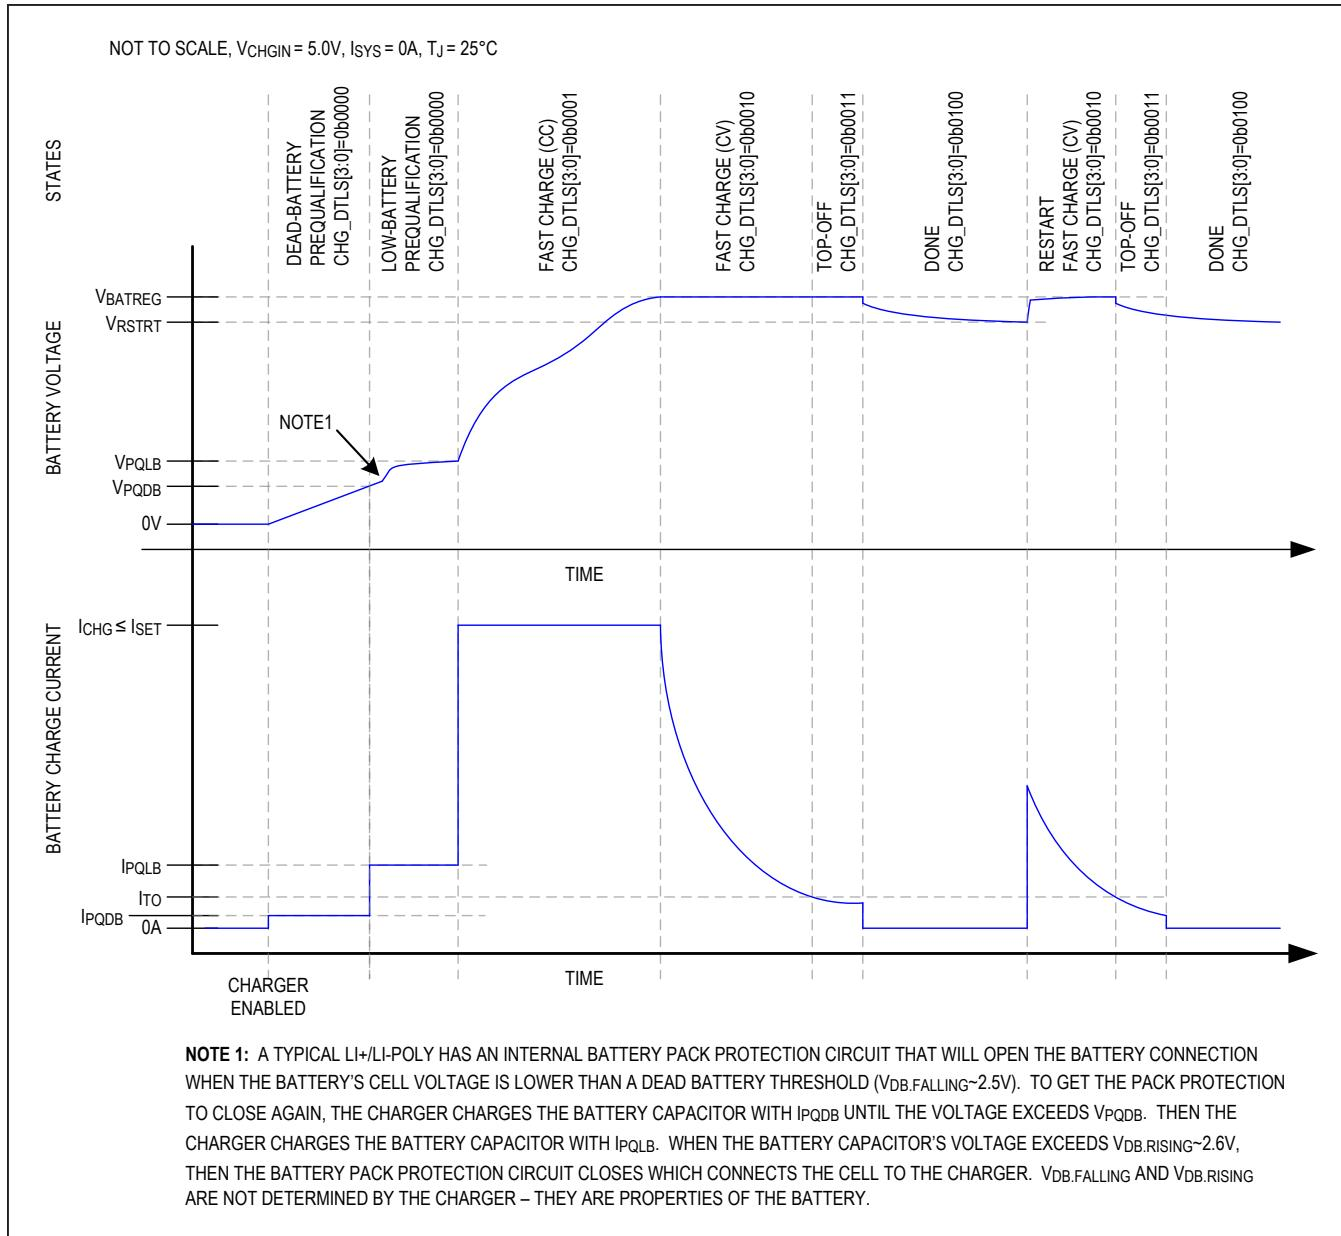
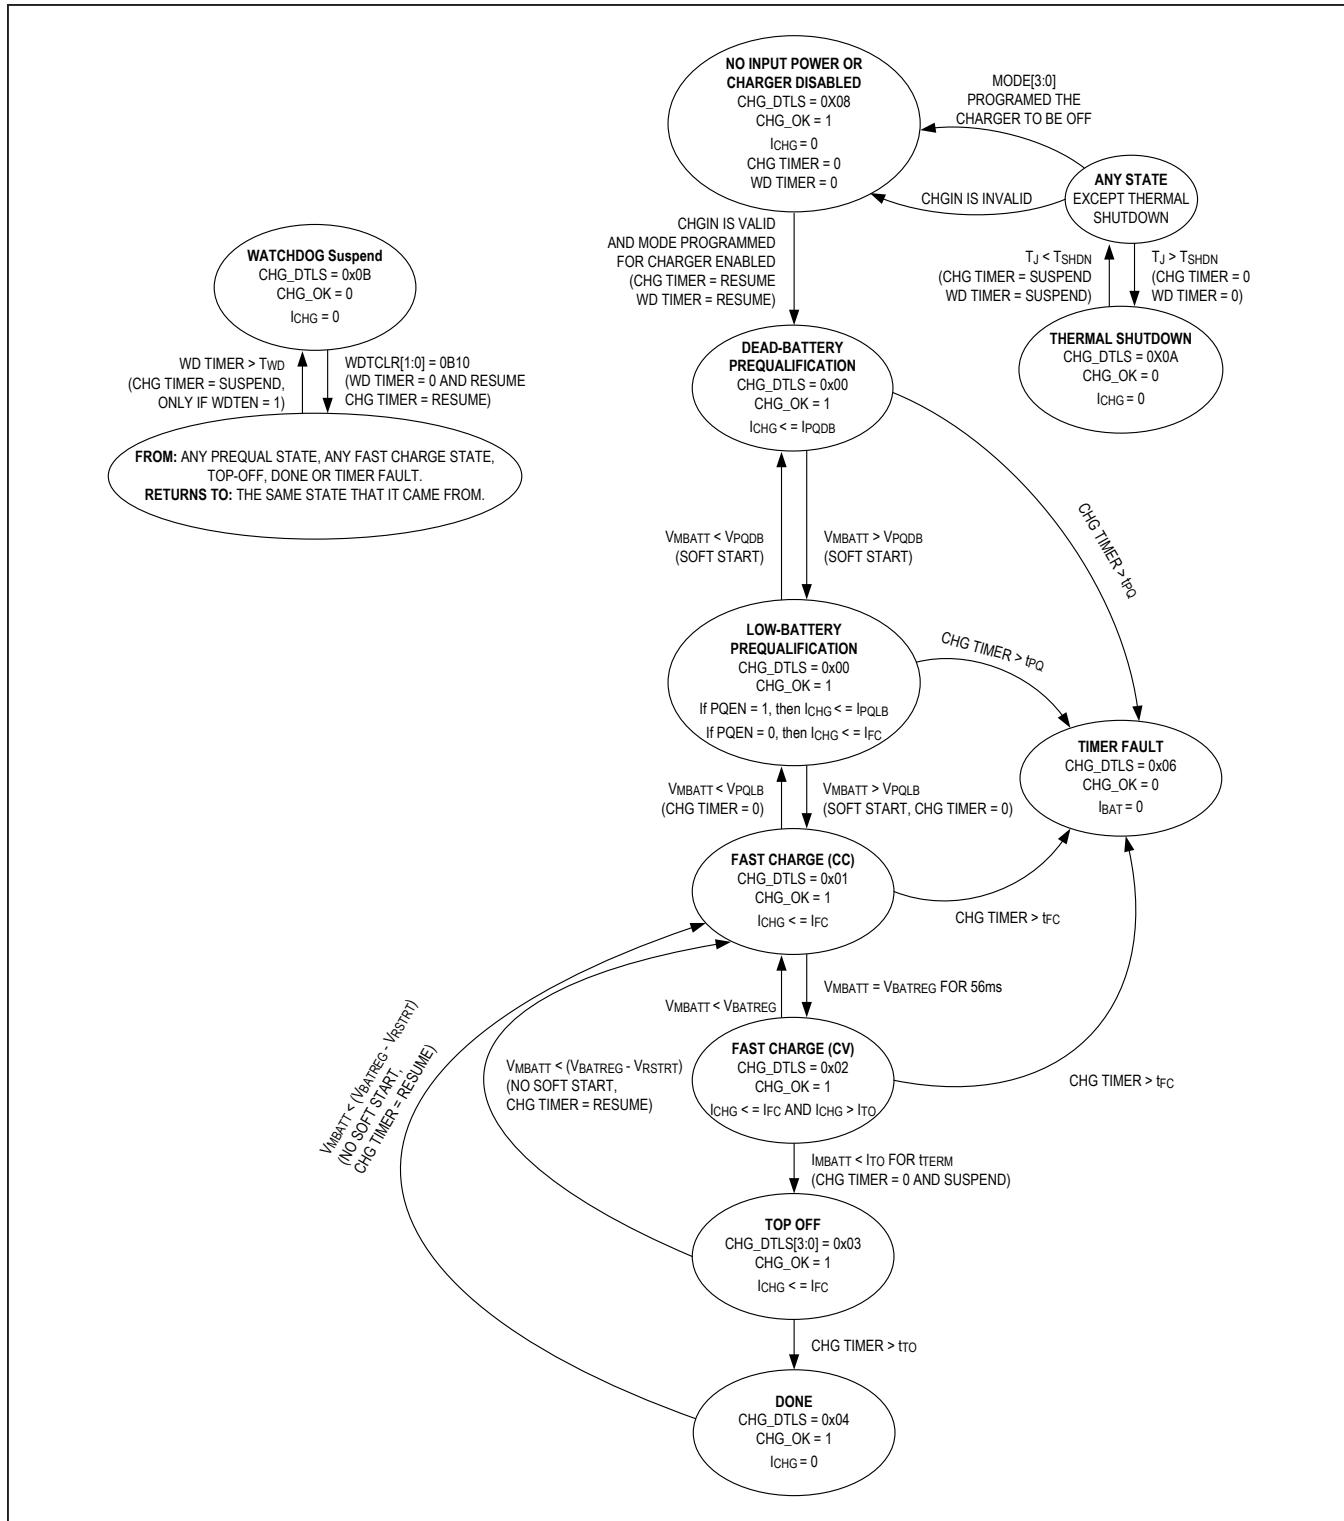

Figure 6. Li+/Li-Poly Charge Profile
Figure 7. Charger State Diagram
The MAX77818 utilizes several charging states to safely and quickly charge batteries as shown in Figure 6 and Figure 7. Figure 6 shows an exaggerated view of a Li+/Li-Poly battery progressing through the following charge states when there is no system load and the die and battery are close to room temperature: daed battery/low battery prequalification → fast-charge → top-off → done.
From any state shown in Figure 7 except thermal shutdown, the no input power or charger disabled state is entered whenever the charger is programmed to be off or the charger input CHGIN is invalid. After being in this state for t_{SCIDG} , a CHG_I interrupt is generated, CHG_OK is set, and CHG_DTLS[3:0] is set to 0x08.
As shown in Figure 7, the dead battery prequalification state occurs when the main battery voltage is less than V_{PQDB} . After being in this state for t_{SCIDG} , a CHG_I interrupt is generated, CHG_OK is set, and CHG_DTLS[3:0] is set to 0x00. In the dead battery prequalification state, charge current into the battery is I_{PQDB} .
As shown in Figure 7, the fast-charge constant current (CC) state occurs when the main battery voltage is greater than the low battery prequalification threshold and less than the battery regulation threshold ($V_{PQLB} < V_{BATT} < V_{BATREG}$). After being in the fast-charge CC state for t_{SCIDG} , a CHG_I interrupt is generated, CHG_OK is set and CHG_DTLS[3:0] = 0x01.
As shown in Figure 7, the fast-charge constant voltage (CV) state occurs when the battery voltage rises to V_{BATREG} from the fast-charge CC state. After being in the fast-charge CV state for t_{SCIDG} , a CHG_I interrupt is generated, CHG_OK is set, and CHG_DTLS[3:0] = 0x02.
In the fast-charge CV state, the battery charger maintains V_{BATREG} across the battery and the charge current is less than or equal to I_{FC} . As shown in Figure 6, charger current decreases exponentially in this state as the battery becomes fully charged.
As shown in Figure 7, the top-off state can only be entered from the fast-charge CV state when the charger current decreases below I_{TO} for t_{TERM} . After being in the top-off state for t_{SCIDG} , a CHG_I interrupt is generated, CHG_OK is set, and CHG_DTLS[3:0] = 0x03. In the top-off state, the battery charger tries to maintain V_{BATREG} across the battery and typically the charge current is less than or equal to I_{TO} .
As shown in Figure 7, the battery charger enters its done state after the charger has been in the top-off state for t_{TO} . After being in this state for t_{SCIDG} , a CHG_I interrupt is generated, CHG_OK is cleared, and CHG_DTLS[3:0] = 0x04.
The battery charger provides both a charge timer and a watchdog timer to ensure safe charging. As shown in Figure 7, the charge timer prevents the battery from charging indefinitely. The time that the charger is allowed to remain in each of its prequalification states is t_{PQ} . The time that the charger is allowed to remain in the fast-charge CC and CV states is t_{FC} , which is programmable with FCHGTIME. Finally, the time that the charger is in the top-off state is t_{TO} , which is programmable with TO_TIME. Upon entering the timer-fault state, a CHG_I interrupt is generated without a delay, CHG_OK is cleared, and CHG_DTLS = 0x06.
In the timer-fault state the charger is off. The charger can exit the timer-fault state by programming the charger to be off and then programming it to be on again through the MODE bits. Alternatively, the charger input can be removed and reinserted to exit the timer-fault state. See the any state bubble in the upper right of Figure 7.
The battery charger provides both a charge timer and a watchdog timer to ensure safe charging. As shown in Figure 7, the watchdog timer protects the battery from charging indefinitely in the event that the host hangs or otherwise cannot communicate correctly. The watchdog timer is disabled by default with $WDTEN = 0$. To use the watchdog timer feature, enable the feature by setting $WDTEN$. While enabled, the system controller must reset the watchdog timer within the timer period (t_{WD}) for the charger to operate normally. Reset the watchdog timer by programming $WDTCLR = 0x01$.
As shown in Figure 7, the thermal-shutdown state occurs when the battery charger is in any state and the junction temperature (T_J) exceeds the device's thermal-shutdown threshold (T_{SHDN}). When T_J is close to T_{SHDN} , the charger has folded back the input current limit to 0A so the charger and inputs are effectively off. Upon entering this state, CHG_I interrupt is generated without a delay, CHG_OK is cleared, and $CHG_DTLS[3:0] = 0x0A$.